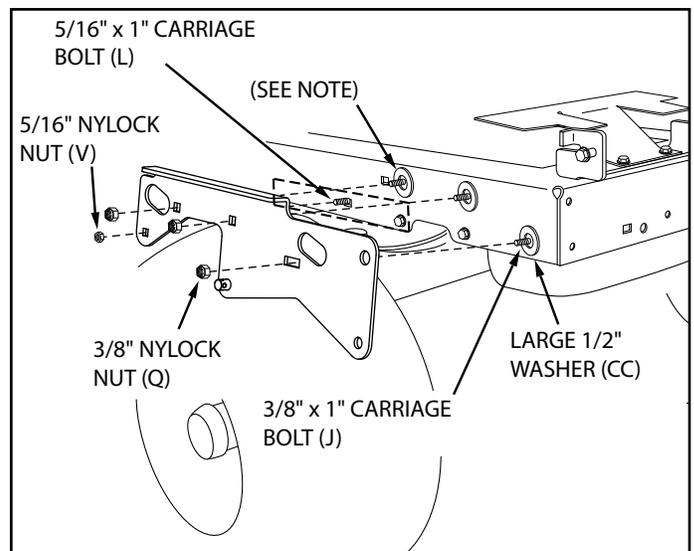

FIGURE 3b
- If the third bolt goes through an engine mounting plate (dotted lines) leave the 1/2" washer off that bolt. Fasten the R.H. Side Plate (bend facing out) to the front three holes in the tractor frame using three 3/8" x 1" carriage bolts (J), three large 1/2" washers (CC) (see note) and three 3/8" nylock nuts (Q). For the rear hole, use a 5/16" x 1" carriage bolt (L), a large 1/2" washer (CC) and a 5/16" nylock nut (V). Place the 1/2" washers (V) between the tractor frame and the side plate. Tighten all bolts. Repeat for L.H. side plate.
- If the tractor is a Husqvarna TS200 Series with dual pedal there will be a bracket like the one drawn with dotted lines in figure 3b. Fasten the R.H. Side Plate (bend facing out) to the front three holes in the tractor frame using three 3/8" x 1" carriage bolts (J), three large 1/2" washers (CC) and three 3/8" nylock nuts (Q). For the rear hole, use a 5/16" x 1" carriage bolt (L), and a 5/16" nylock nut (V). Place the 1/2" washers (V) between the tractor frame and the side plate. Tighten all bolts. Repeat for L.H. side plate.